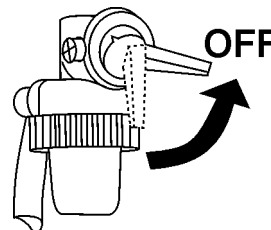

Figure 21. Engine Fuel Valve Lever (OFF Position)
- Place the engine **fuel valve lever** (Figure 21) to the **"OFF"** position.
- Drain the engine oil when the oil is **warm** as shown in Figure 21.